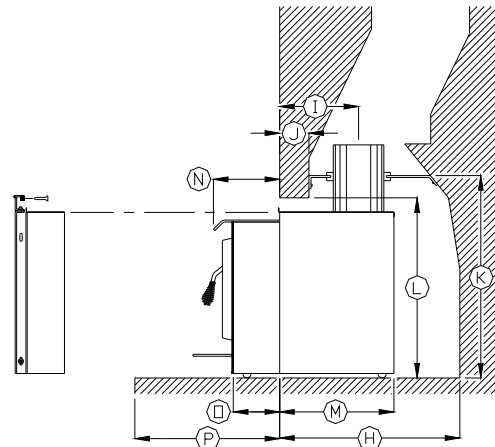

Figure 5
A. Referring to the table and Figure 5, pick a location for the positive connector plate. It will be easiest to install the plate so that the hole for the flue is somewhere in between the extreme positions, and to use the adjustability of the faceplate to take up any inaccuracies in the fit. Alternatively, the plate itself can be moved up and back by using a 152mm extension directly on the flue.
4. **POSITIONING THE UNIT:** The more extended the inbuilt, the greater the heat transfer to the room. When installed as an extended inbuilt, the front edge of the air jacket will be installed flush with the fireplace facing. Otherwise the unit can be moved back as much as 89 mm or any position in between. The position chosen will depend on your own preference for most installations (where the lintel is less than 152mm and the depth is greater than 318mm). See the table and Figure 5.